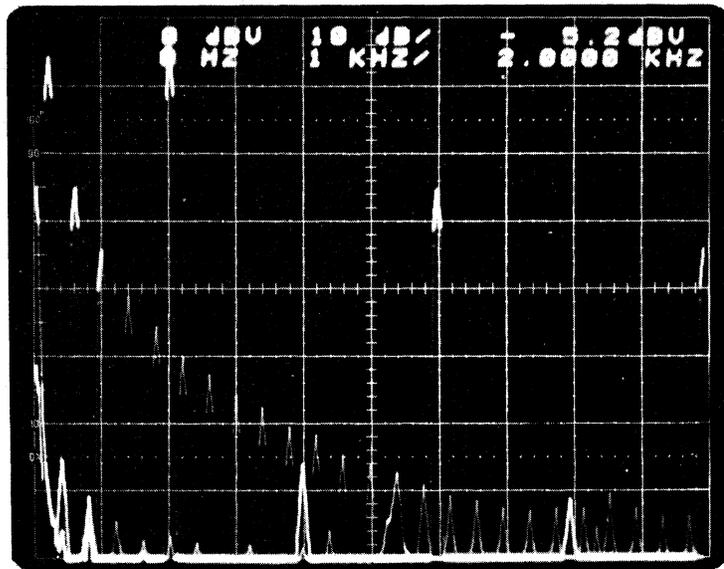

Fig. 4-3 Foreground (Intensified Sweep) Display of 0 - 10 KHz Analysis
- b. Rotate RESOLUTION to 125 Hz (25 KHz SPAN). The intensified foreground disappears, and the 0 - 100 KHz span appears with the region 0 - 25 KHz intensified. TUNING replaces 5 KHz/ on the CRT. In a few seconds, the foreground analysis from 0 - 25 KHz will appear. Repeat process by rotating RESOLUTION to 50 Hz (10 KHz SPAN). Fig. 4-3 indicates the new display. If the interference between the background and foreground is annoying, then set the DISPLAY-BACKGROUND SELECT switch to BLANK. The background will disappear.